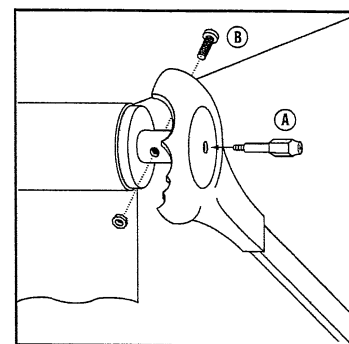

Fig. A5
- 3) Screw the threaded end of the shaft retention tool (A) (or a $\frac{1}{4}$ -20x2" bolt with a washer under the head) through the hole in the center of the Zip Dee Logo in the front main arm head into the shaft of the motor. (**Fig. A5**) Sung tight with $\frac{1}{2}$ " socket wrench,--don't use excessive force. **Note: the retention tool keeps the head and motor fastened together to step 6.**